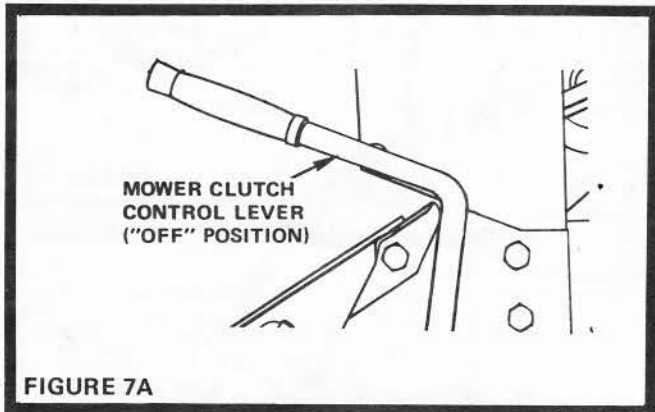
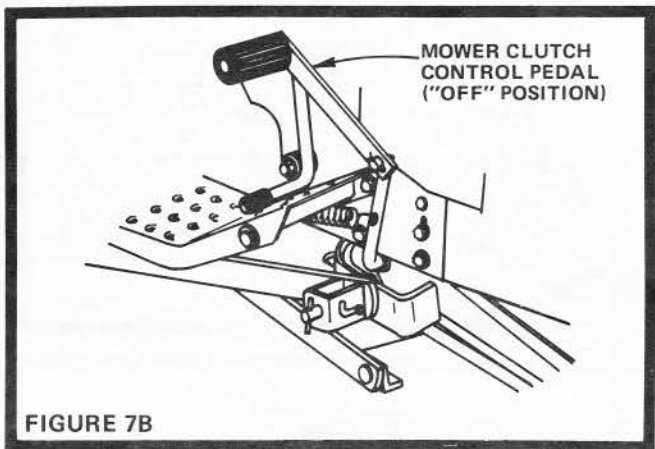

FIGURE 7A
FIGURE 7B
6. Place Mower Clutch Control Lever in "OFF" Position as shown in Fig. 7A (if Tractor is equipped with Pedal, refer to Fig. 7B).